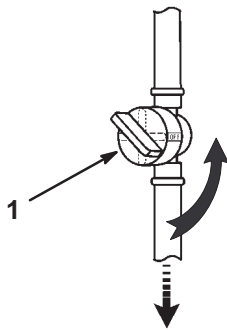

Figure 32
2. Turn the fuel shut-off valve off (Fig. 32).